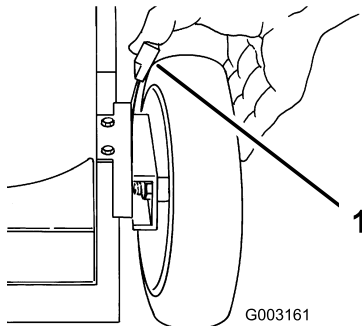

Figure 17
1. Pull the wheel height adjustment lever toward the wheel (Figure 17) and move it to the desired setting.